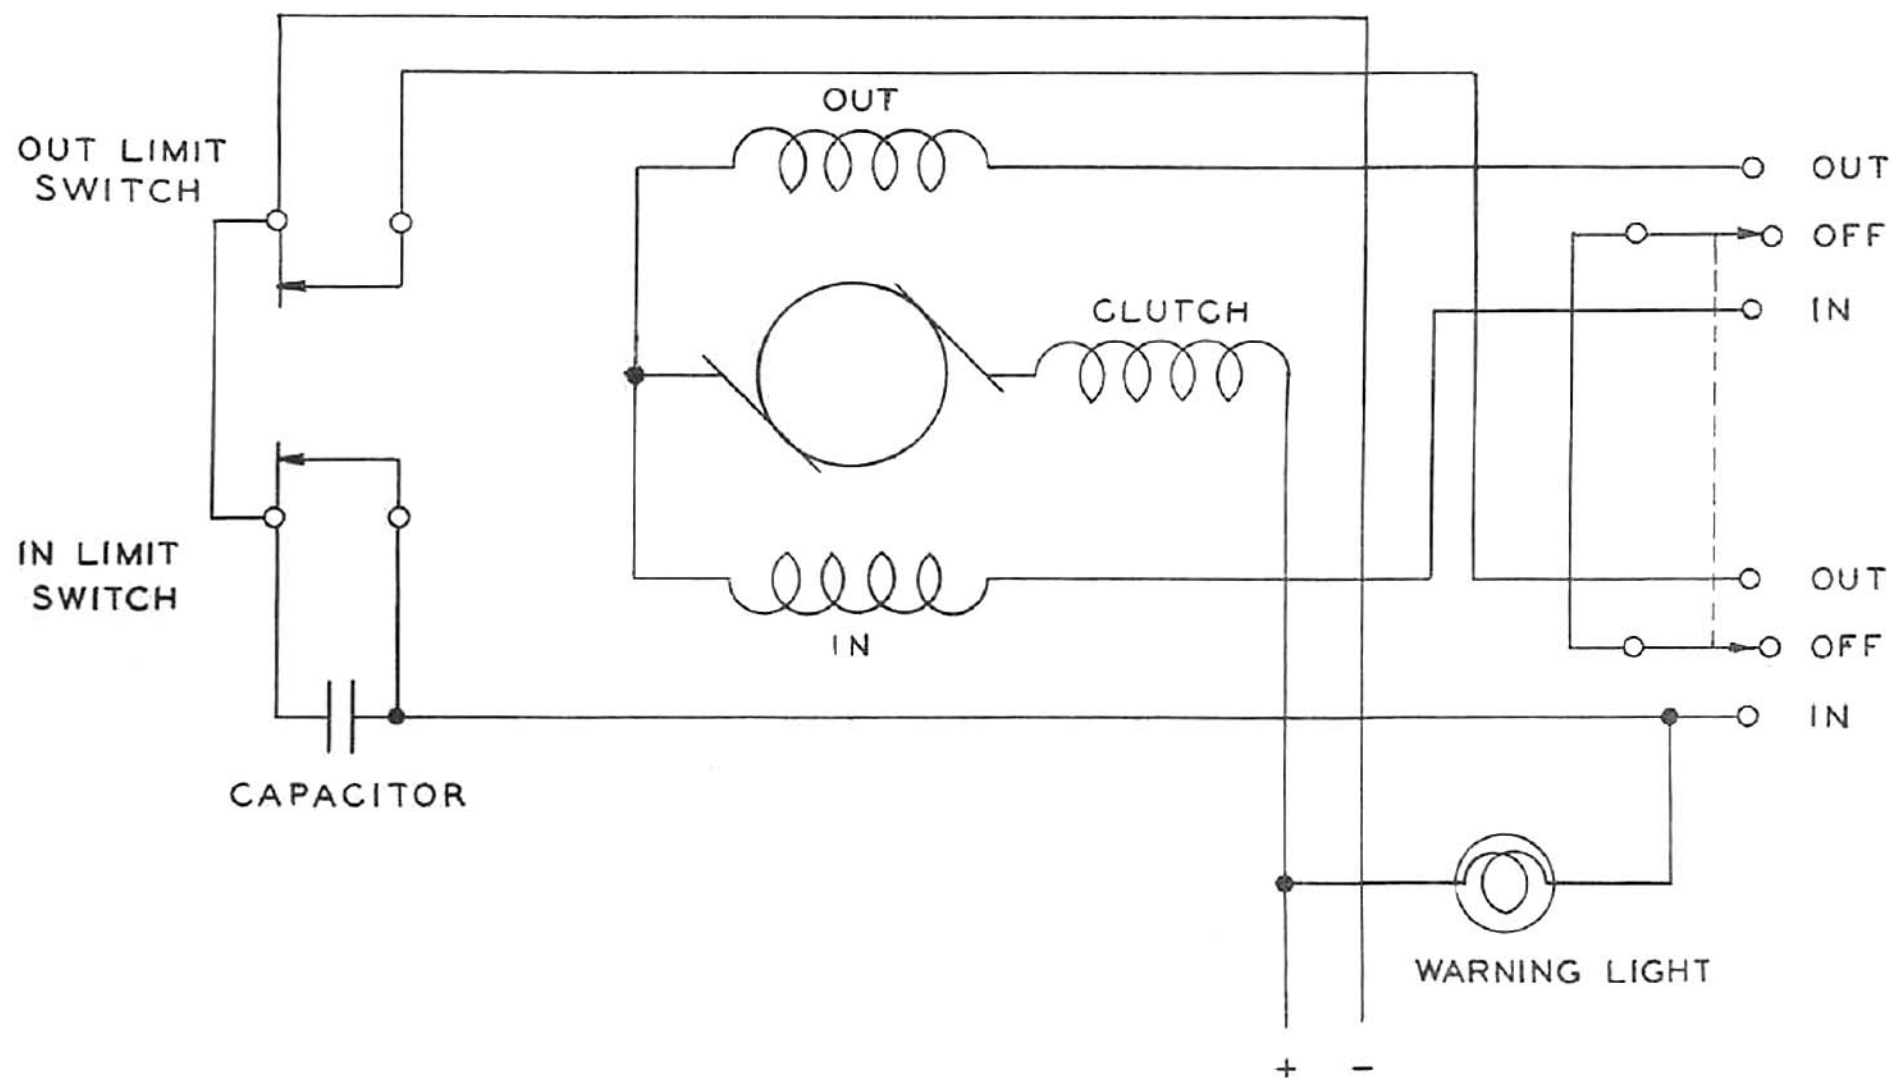

FIG. 1
- Fig. 1. Reel RL-41 or RL-42 and Reel Control Box BC-461, Schematic Diagram.